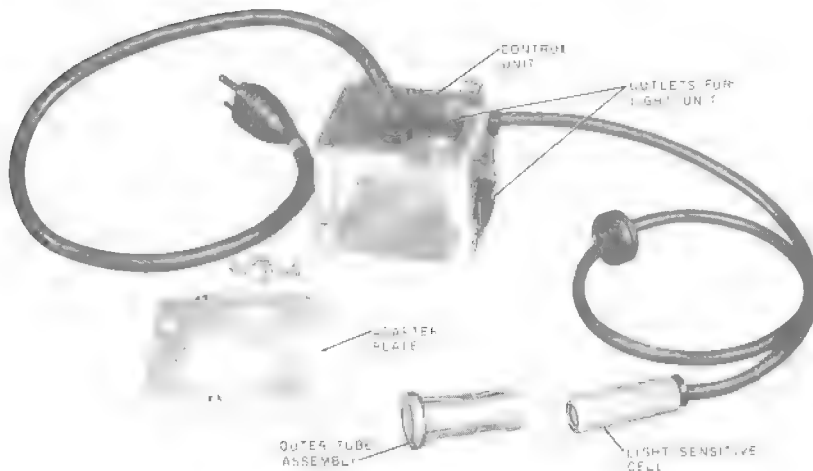
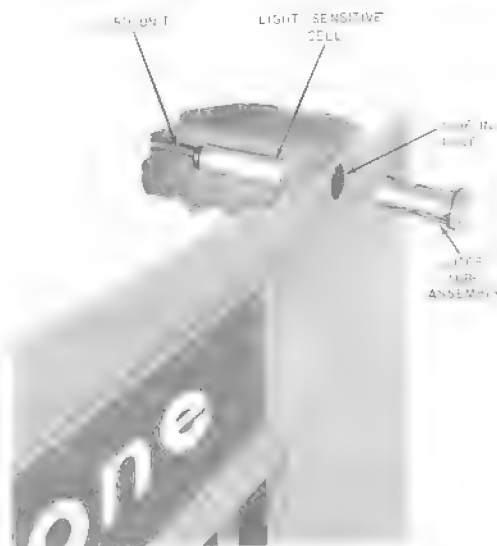

Fig. 2—KS-19261, List 2 Light Control Unit
Fig. 7—Method of Installing Light Cell
2.04 The KS-19261, List 2 light control unit (Fig. 2) is used in outdoor booths equipped with light units other than a KS-19207 light and blower unit.
- (i) Place outer tube assembly (Fig. 2) through roof hole from outside until the tabs lock behind edge of hole (Fig. 7).
- (l) Place outer tube assembly through roof hole from outside until tabs lock behind edge of hole (Fig. 7).